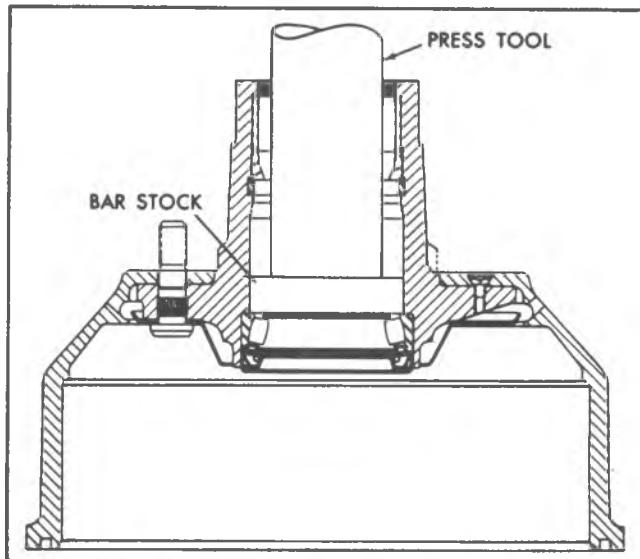

Fig. 70—Removing Hub Inner Bearing Cup
- Cut a suitable length of 1/2 inch steel bar stock for press-out tool as shown in figure 70.